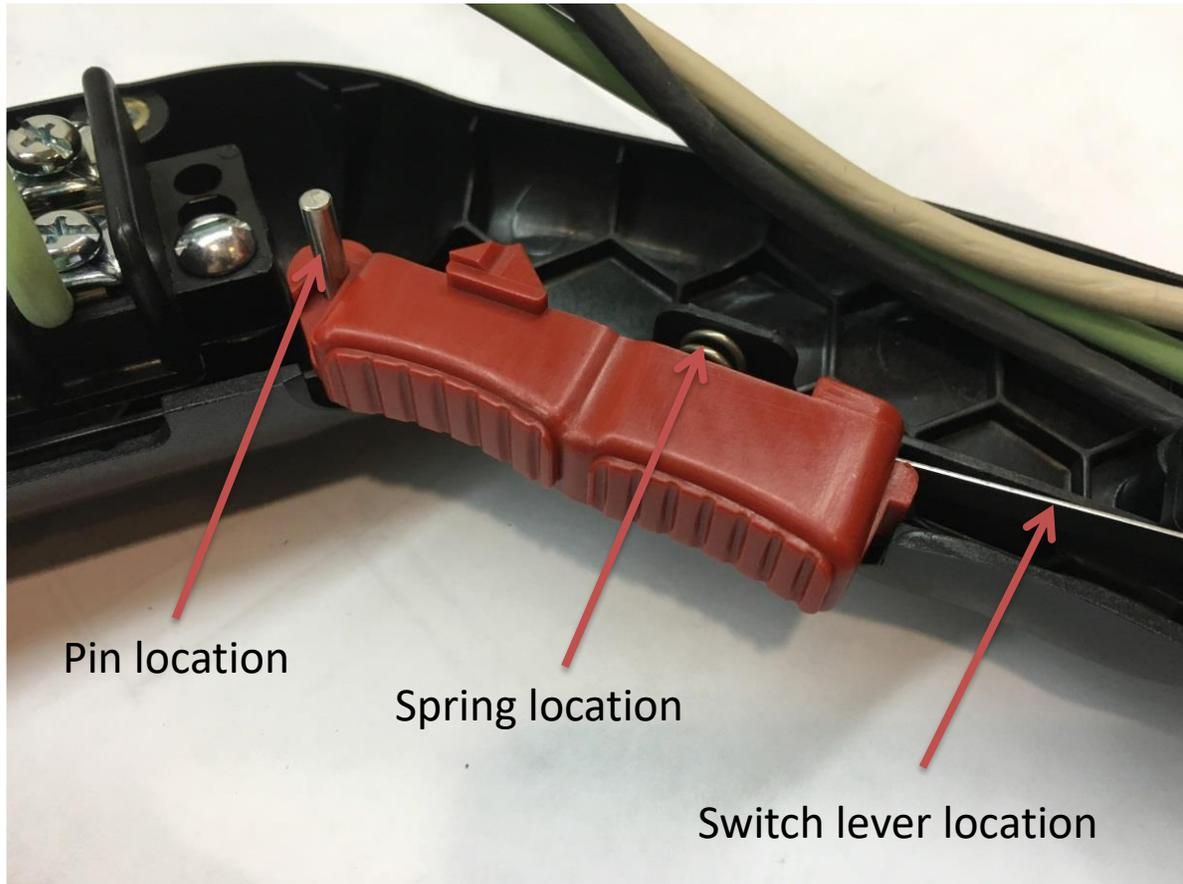

Fig.6-21 Actuator / Trigger Assembly
2. Remove (2) #4-40 x 1/2" pan head screws from switch, then remove switch from handle.
3. See Fig.6-20 Actuator Spring Location and Fig.6-21 Actuator / Trigger Assembly for proper assembly of actuator to switch.
4. Replace switch and install (2) #4-40 x 1/2" screws and tighten.
2. Remove (2) #10-32 x 5/8" round head machine screw from terminal block then remove terminal block from handle.
3. Replace terminal block and install (2) #10-32 x 5/8" screws and tighten.
4. Follow steps 10-12 from 6.22.1 above. If actuator, pin, and spring need to be reinstalled, see Fig.6-20 Actuator Spring Location and Fig.6-21 Actuator / Trigger Assembly.